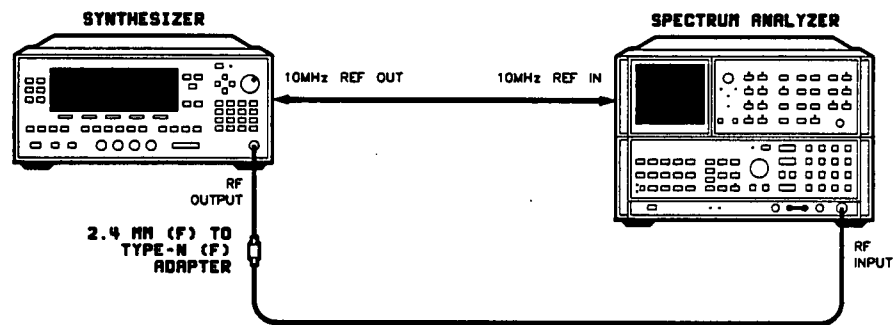

Figure 2-14. Alternate Phase Noise Test Setup
1. Connect the equipment as shown in figure 2-14. Preset the equipment and let them warm up for at least one hour.